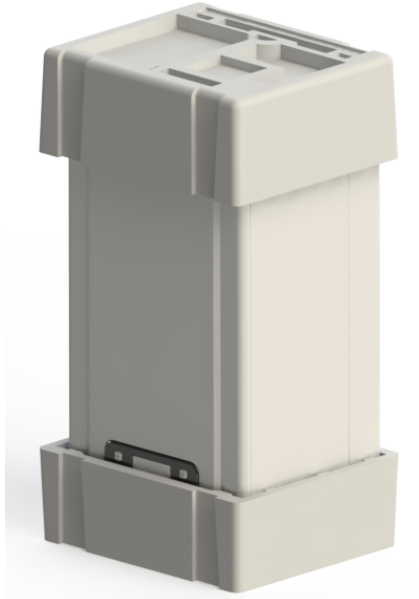

Figure 2
- The device is delivered within a cardboard box as supported with bottom and top styrofoams with a size of 865 x 470 x 405 (HxWxD) (Figure 2).